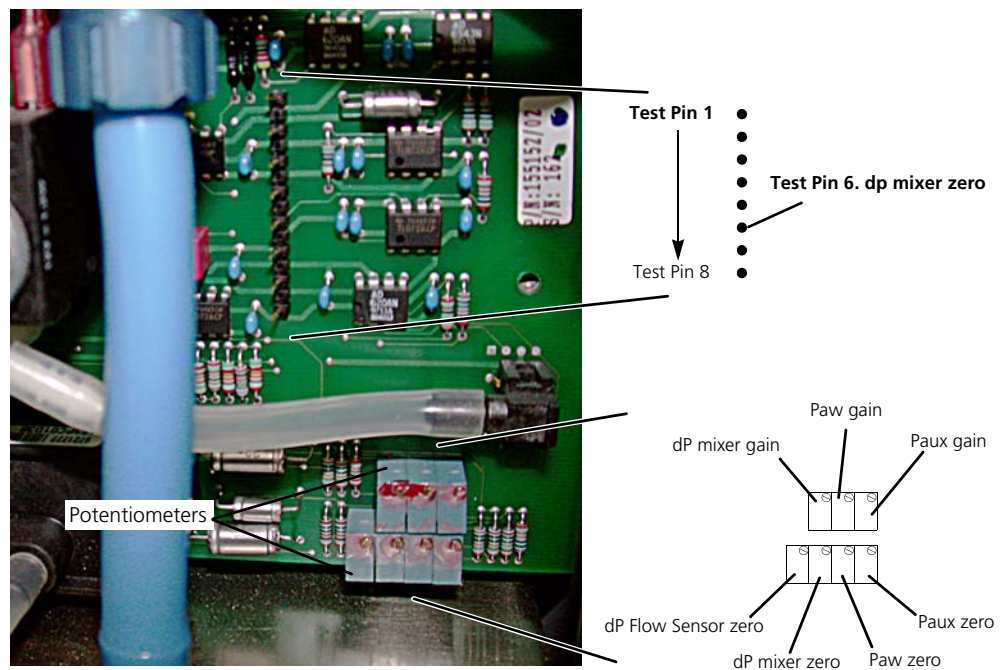
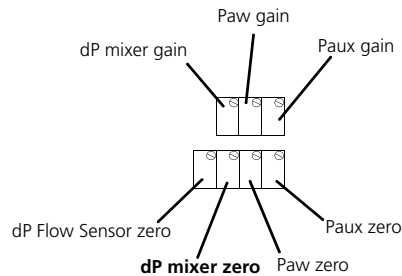

Figure 10-16. Location of the potentiometers and test pins on the sensor board
Figure 10-18. The dP mixer zero potentiometer
- The sensor board. This is located under the mixer, as shown on Figure 10-16.
(Figure 10-16 on page 10-35.)
2. Adjust potentiometer *dP mixer zero* (shown in Figure 10-18 below, and in more detail in Figure 10-16 on page 10-35) until the volt meter reads 0 ± 5 mV.